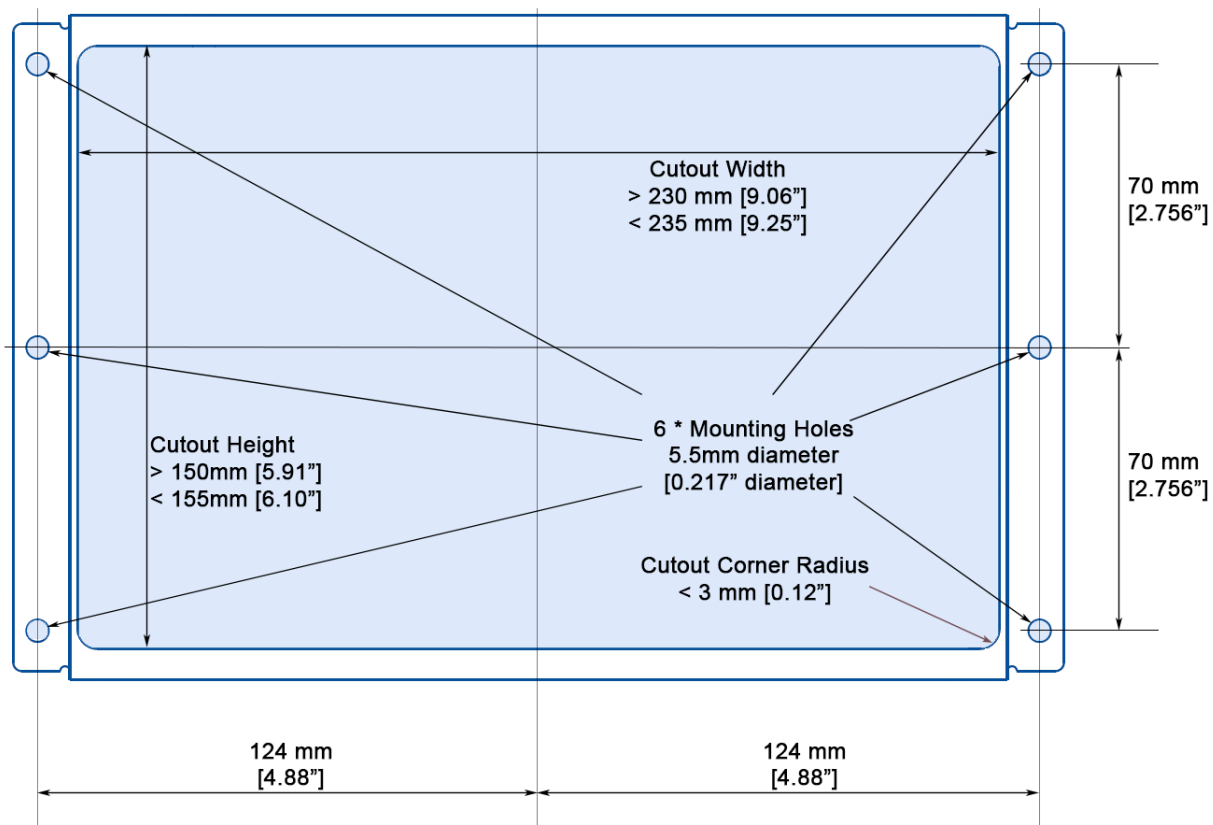

Figure 2 – TSM810C Cutout Dimensions (not to scale)
- Step 2:** Cut out a section from the panel that corresponds to the rear panel dimensions of the TSM810C. Take care that the panel section that is cut out is smaller than the overall size of the front panel of the TSM810C but just large enough for the rear panel of the TSM810C to fit through, according to the dimensions in Figure 2 above.
- Step 4:** Drill six 5.5mm holes for the mounting screws according to the dimensions in Figure 2 above.